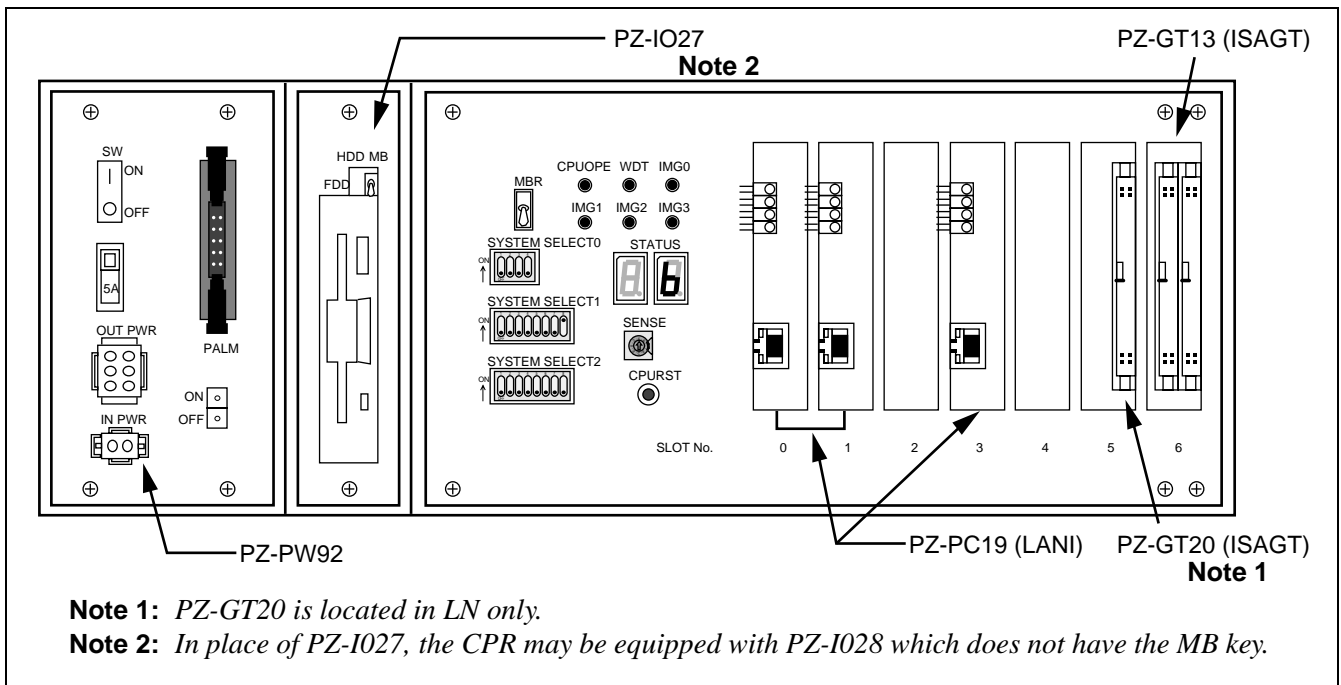

Figure 4-22 CPR Face Layout
STEP 1 Set the CPU, whose rack houses the fan to be replaced, in STBY mode via the MBR key on the DSP (Refer to Figure 4-22.) **Note**
STEP 3 Turn OFF the PWR SW on the PZ-PW92 (Refer to Figure 4-22.)